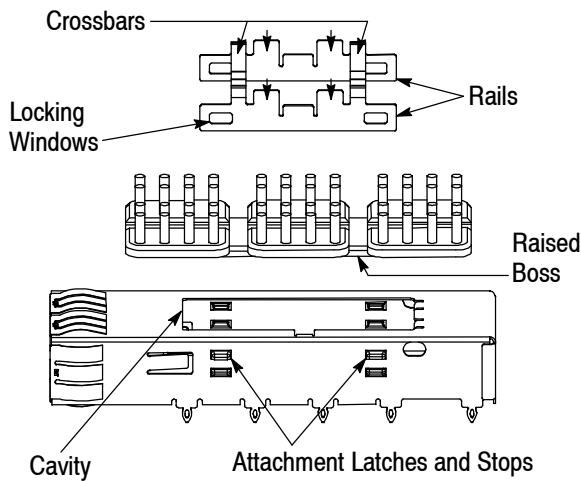

Figure 6
6. If applicable, secure the heat sink to the cage assembly as follows (see Figure 6):